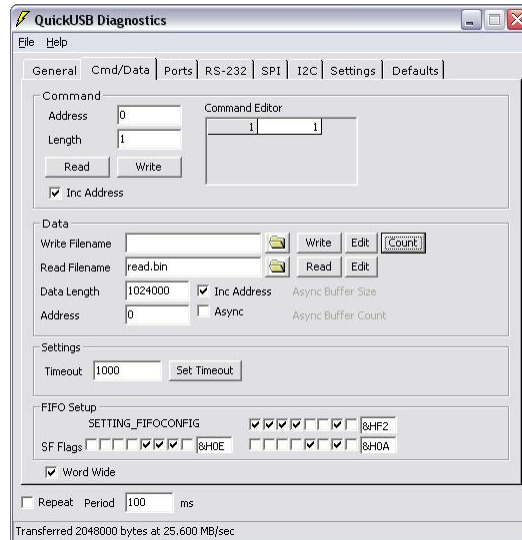

Figure 5 – QuickUSB Diagnostics Cmd/Data Tab for Read/Write Test
- b. Under the “Command” section, in the “Address” text box, type “0” as shown in Figure 5.
- c. In the “Length” text box, type “1” as shown in Figure 5.
- d. In the “Command Editor”, Type “1” as shown in Figure 5.
- b. Under the “Data” section, in the “Data Length” text box, enter a value of “1024000” as shown in Figure 5.
- c. Under the “Data” section, click “Count”. This will write an incrementing count to the Output FIFO in the FPGA. The transfer rate can be seen at the bottom of the QuickUSB Diagnostics window when you click the “Count” button as shown in Figure 5.
- d. The QuickUSB Module will read the data from the Input FIFO. The transfer rate can be seen at the bottom of the QuickUSB Diagnostics window when you click the “Count” button as shown in Figure 5.